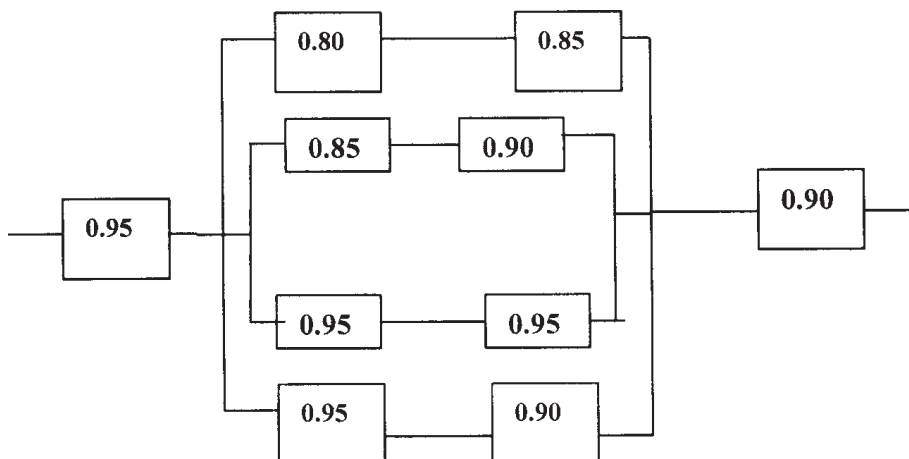

Fig. 1
- Q1) a)** Calculate the reliability of the system shown in Fig.1. The values in the block show the reliability of individual components in the system. **[10]**